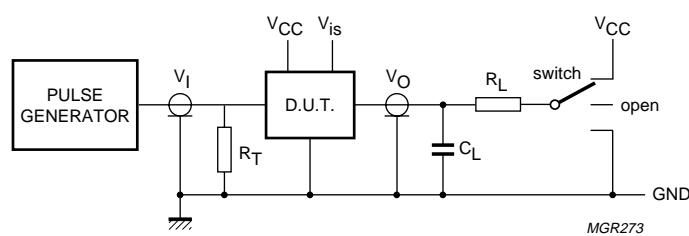

Fig.20 Test circuit for measuring AC performance.
**Table 3** Definitions for Figs 20 and 21: